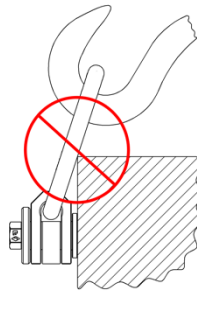

Fig 2
- Make sure the hoist ring bail/ring or hardware attached to it does not come in contact with the workpiece or any obstacles during the lift. The bail/ring must not bind on the edge of the workpiece. Use spreader beam to avoid binding (Fig.2).
Acceptable pulling area, restrictions apply (see Fig.2 and Safety Information above)